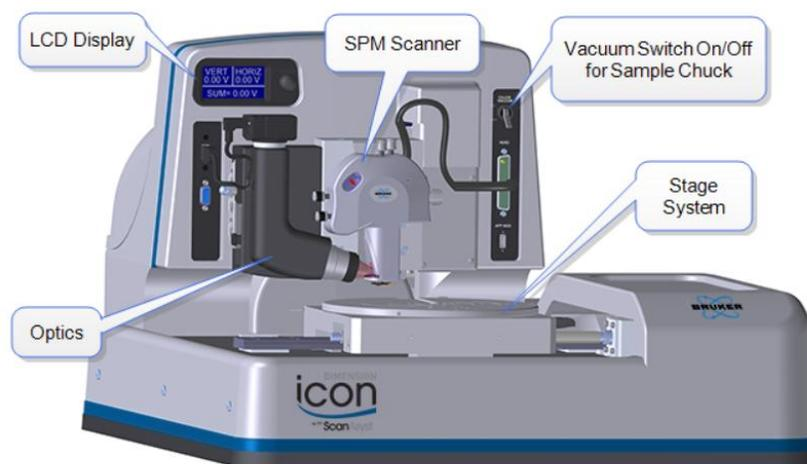

Figure 4. Bruker Dimension Icon AFM Setup
6. Loosen the screw located on the right side of the Dimension Icon Scanner head, as shown in Figure 4.